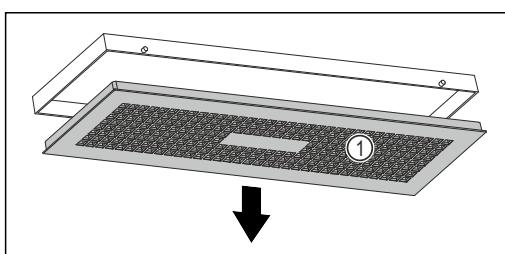

Fig. 112
- ▶ Slowly turn the water box down while holding the cover Fig. 112 (1).
- ▶ Remove the cover Fig. 112 (1).